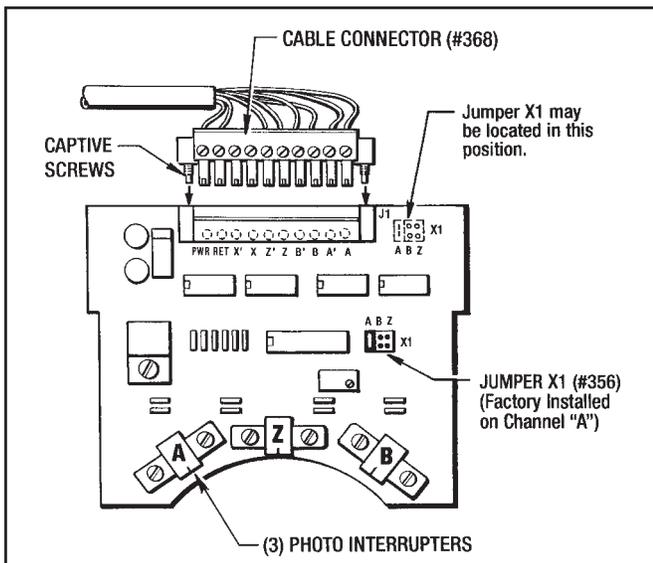

Figure 6.7 - Circuit Board Connector
1. Take out the (4) Screws (#225) and remove the Top Cover (#372) and the upper Gasket (#19) from the Upper Enclosure (#18). This gasket is reusable.
3. Loosen the (2) captive screws in the Cable Connector (#368) and unplug it from the Circuit Board (#355). (See Figure 6.7)